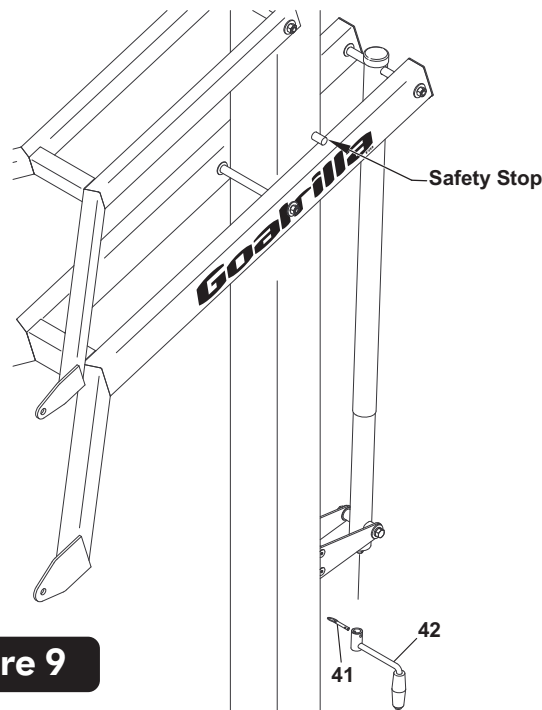

Figure 9
12. Slide Actuator Crank (#42) onto shaft on the bottom of Actuator (#16). Line up hole in shaft with hole in Actuator Crank and insert Pull Pin (#41) to secure. See Figure 9.